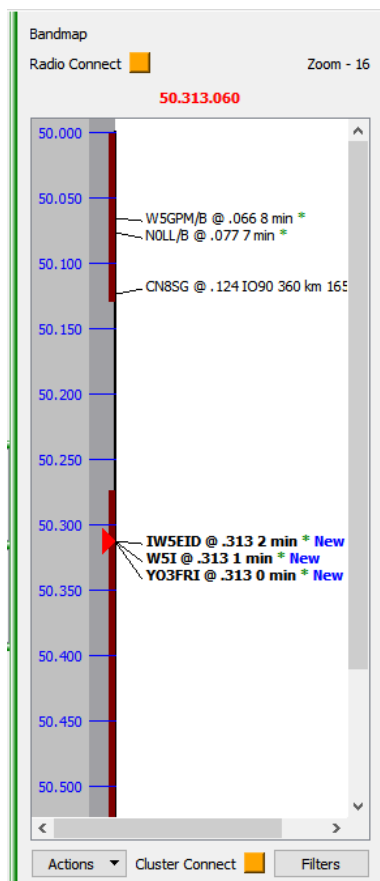

Figure 124 – Bandmap display
An example display is shown in Figure 124. **Beware:** if you don’t see anything, check your filters
To vary the zoom in order to focus on areas of interest use the scroll wheel¹³⁰ while hovering over the grey frequency bar. The current zoom setting (- 16, the least zoom, in Figure 124) is displayed in the top right of the panel. The scroll bar on the right can be used to move within the extended display thus created, or the scroll wheel while hovering over the white portion of the panel¹³¹.
- The current rig frequency is indicated by the black 'play' symbol ('dial cursor' on 144.290 in Figure 124). If this symbol turns red it indicates that it is a frequency/mode pairing that does not match the bandplan.
- If the dial cursor is not viewable, click the dial frequency at the top of the panel (144.290 at top of Figure 124) to bring that frequency back into the viewport.